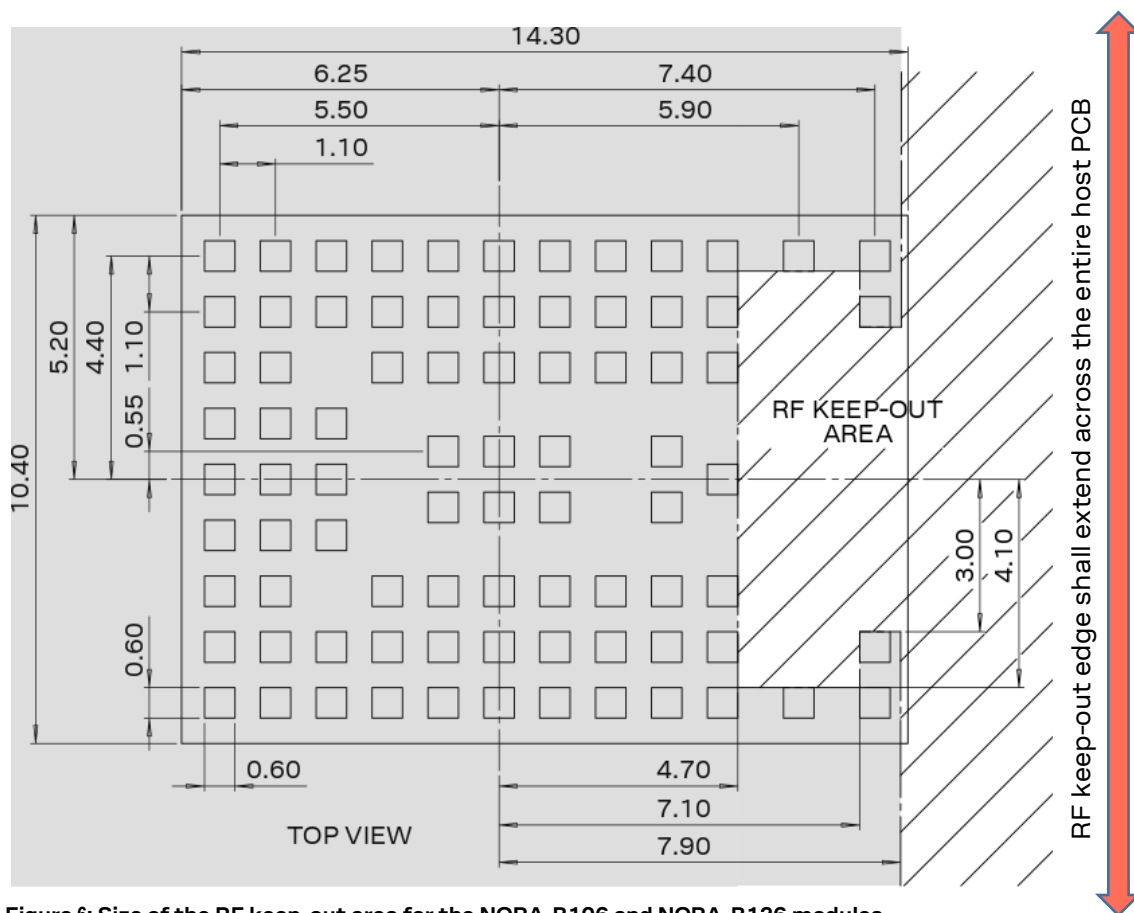

Figure 6: Size of the RF keep-out area for the NORA-B106 and NORA-B126 modules
- The host PCB should include a full GND plane underneath the entire module, with a ground keep-out under the antenna according to the description in Figure 6.